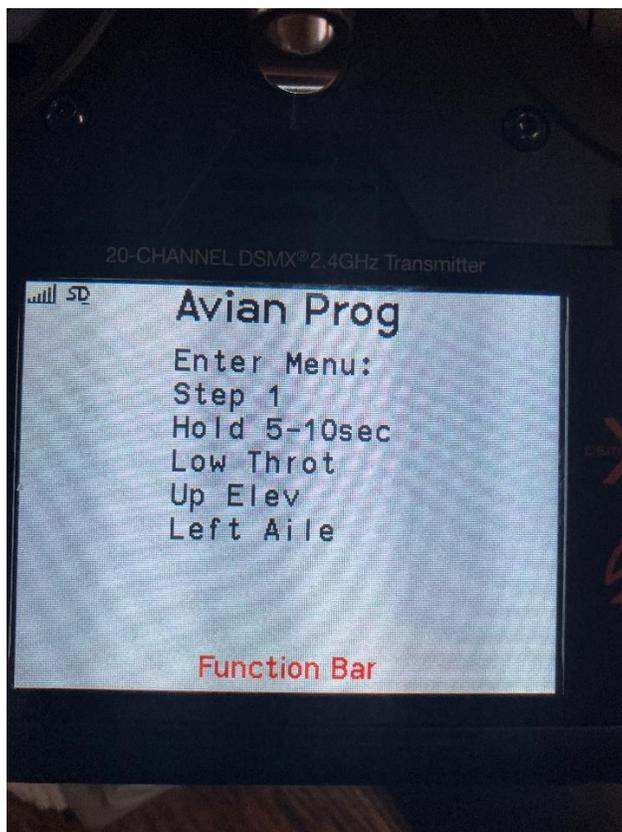

Figure 19.0 Avian Prog Main Menu screen
1. Unplug the battery and plug it back it to reset the system. Then within approximately 45 seconds after plugging the battery in, scroll over to the screen that's titled: **Avian Prog**. *Figure 19.0* shows that screen.